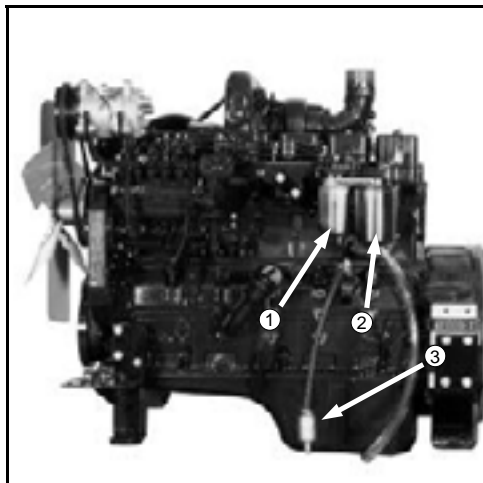

FIG 7.22
**PRIMARY (WATER SEPARATOR)** - (fig. 7.22, item 2) Drain water and sediment from the separator daily. Replace every 500 hours or once a year, whichever comes first.
**SECONDARY** - (fig. 7.22, item 1) Replace every 500 hours or once a year, whichever comes first.
**IN-LINE STRAINER** - (fig. 7.22, item 3) Note direction of fuel flow arrow when replacing.